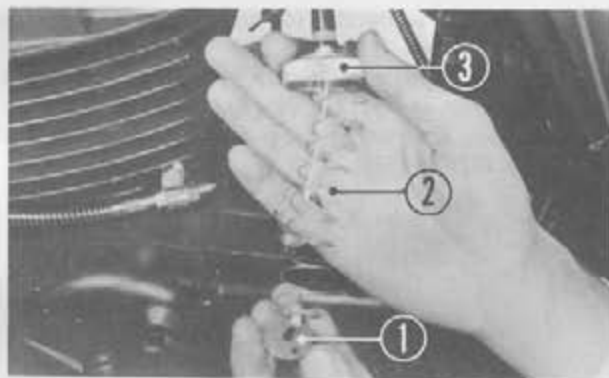

Fig. 4-99 ① Valve plate
1. Install the valve plate in the direction shown in Fig. 4-99.